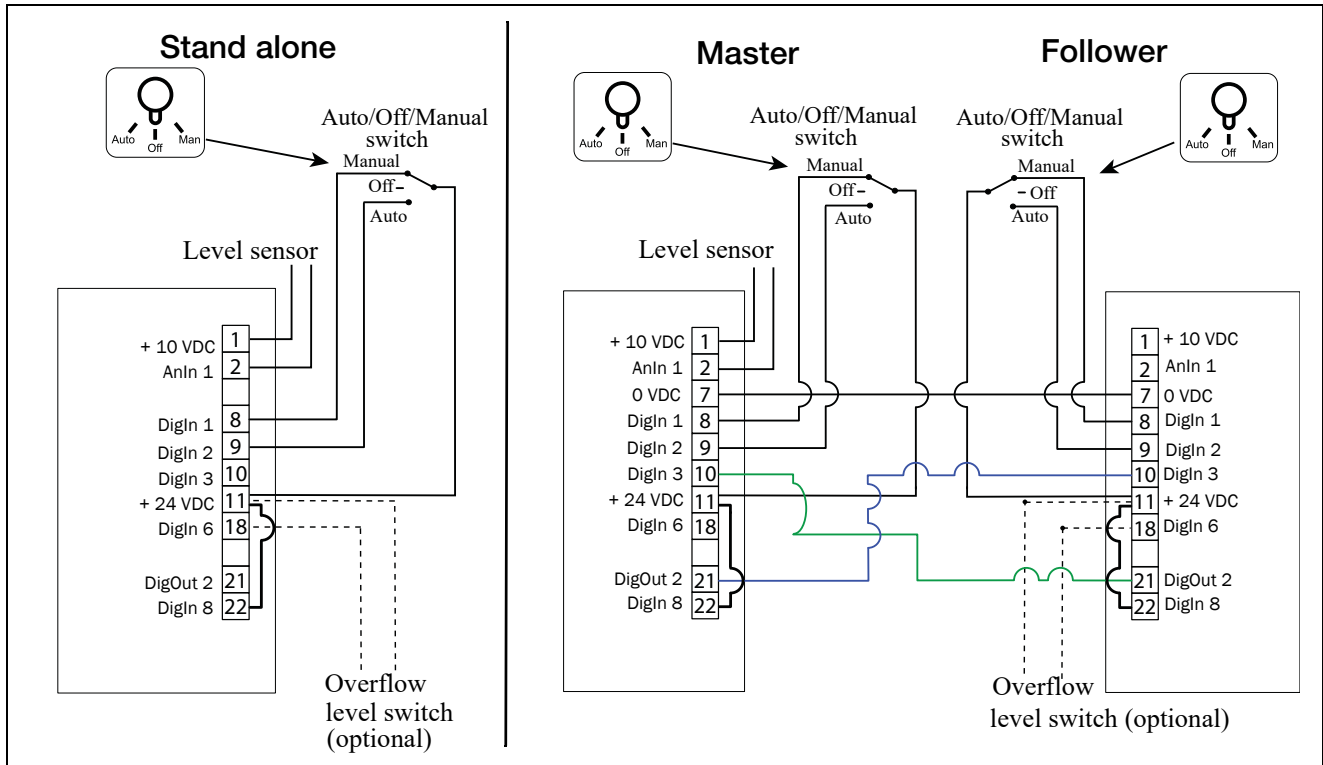

Fig. 40 General control I/O, minimum wiring.
1. Connect a level sensor between terminals 1 (+10 VDC) and 2 (AnIn 1) as in Fig. 40 The default setting for the AnIn1 is 4-20 mA. If the level sensor has a 0-10 V interface, change the position of switch (S1) on control board (Table 17).
2. Connect an external Full speed switch between terminal 11 (+24 VDC) and 8 (DigIn1, Flow Run) as in Fig. 40. Set the switch in the open position (digital input set to low state). (Do not activate the signal at this point.)
3. Connect an external Auto run switch between terminal 11 (+24 VDC) and 9 (DigIn2, Flow Auto) as in Fig. 40. Set the switch in the open position (digital input set to low state). (Do not activate the signal at this point.)
4. Connect a communication cable between Master terminal 10 (DigIn3) and Follower terminal 21 (DigOut2) as in Fig. 40. (Only if Master/Follower).
5. Connect a communication cable between Master terminal 21 (DigOut2) and Follower terminal 10 (DigIn3) as in Fig. 40. (Only if Master/Follower).
6. Connect an overflow level switch (optional) between terminal 11 (+24 VDC) and 18 (DigIn6, Lvl Overflow) as in Fig. 40 Connect the signal to the Follower drive instead in a Master-Follower configuration for redundancy.